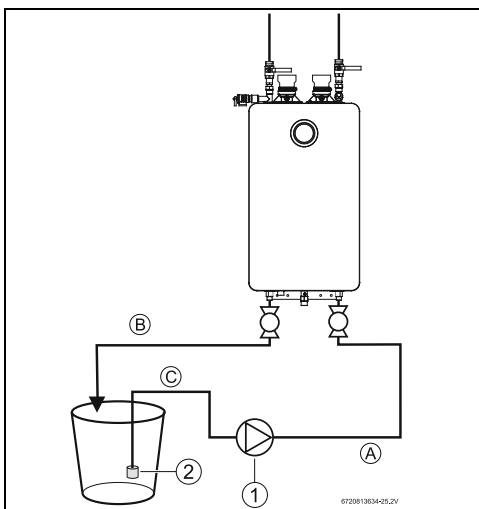

Fig. 55
- ▶ Connect a line (A) from the outlet of the circulating pump (installer supplied) to the inlet drain connection on the water heater (see fig. 55.)
- ▶ Using another line (B), connect the outlet drain connection on the water heater. Route the other end of this line into a descaling reservoir.
- ▶ Using a 3rd line (C) from the descaling reservoir, connect to the inlet side of circulating pump. Install a filter on the end of the line in the descaling reservoir.